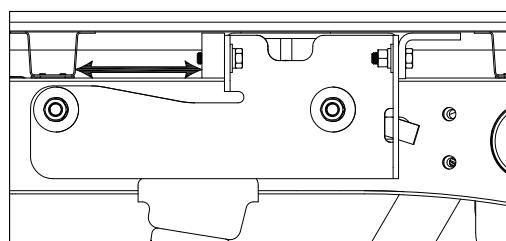

FIGURE D1: Passenger side of truck frame inside the wheel well.
- Square the hitch.** With a tape measure, check the distance between the Turnoverball hitch and the nearest bed crossmember. The distance between the hitch and the crossmember should be consistent on the passenger side and the driver side of the hitch, see figure D1. Adjust hitch until the hitch and the bed crossmember are the same from side to side.